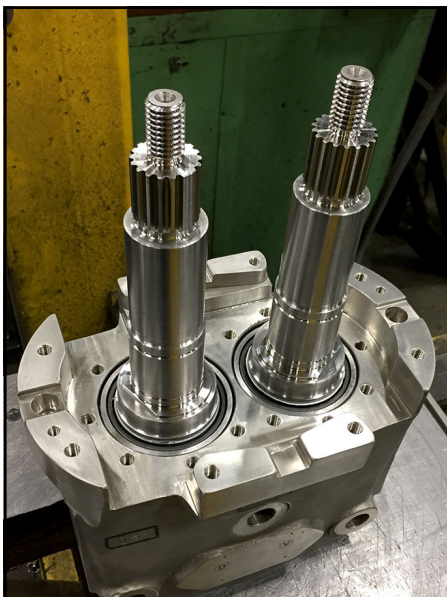

Figure 315 -Bearing outer races seated into gear case
13. Shown with bearing outer races fully seated into the gear case as shown in Figure 315